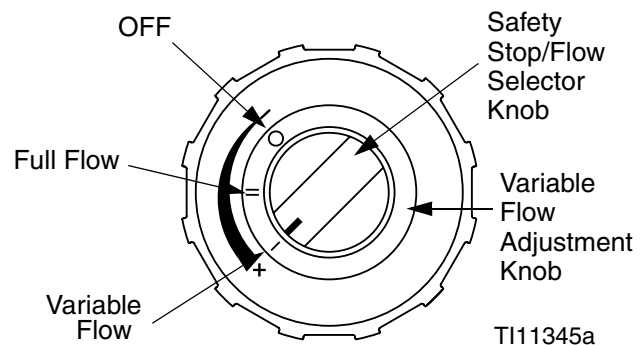

FIG. 27
2. Turn flow selector knob to variable flow position. See FIG. 27.
3. Turn air valve (W) OFF.
To spray a reduced flow pattern, push in and turn flow selector knob to variable flow position. See FIG. 27.
To return to a full flow pattern, push in and turn flow selector knob to full flow position. See FIG. 27.
The variable flow adjustment knob cannot be adjusted when the flow selector knob is in the safety stop position. See FIG. 27.
- Turn air valve ON, and open fluid valves. Verify that flow selector knob is set to the variable flow position. See FIG. 27.